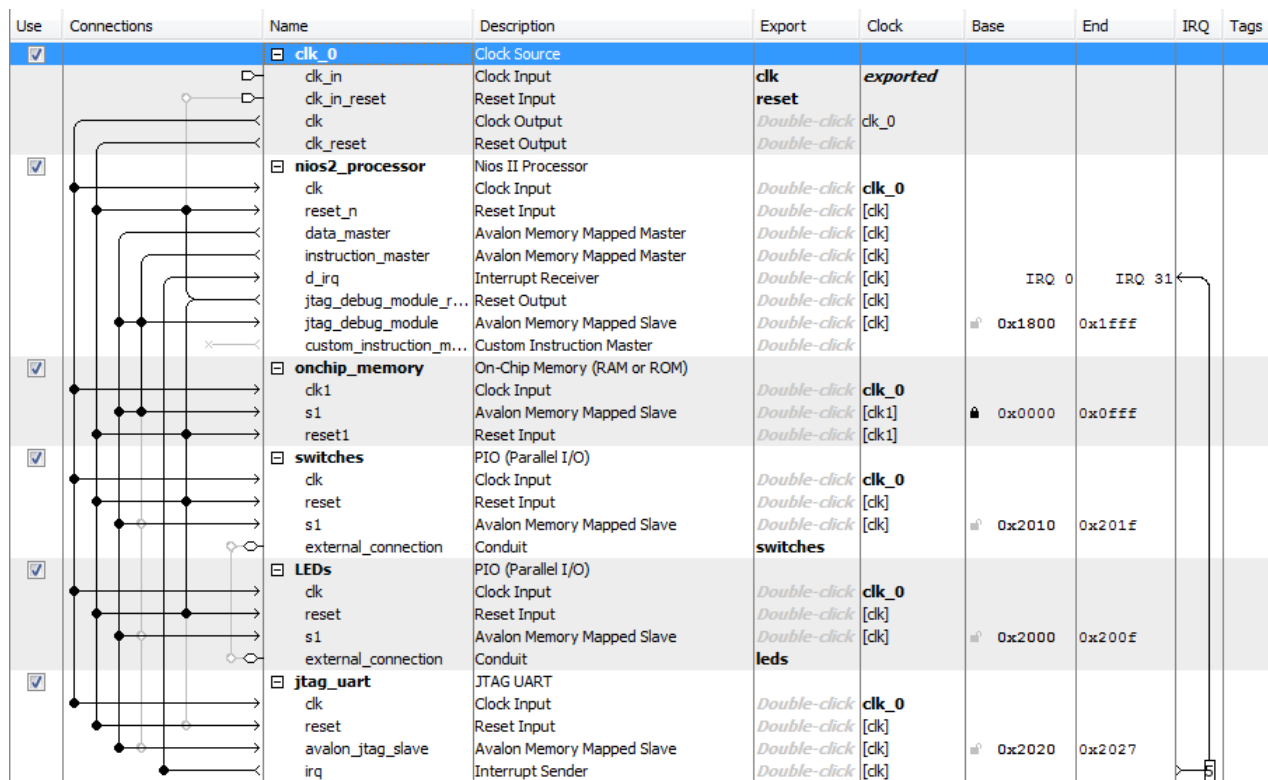

Figure 18. The complete system.
14. So far, we have specified all connections inside our *nios\_system* circuit. It is also necessary to specify connections to external components, which are switches and LEDs in our case. To accomplish this, double click on Double-click to export (in the Export column of the System Contents tab) for *external\_connection* of the switches PIO, and type the name *switches*. Similarly, establish the external connection for the lights, called *leds*. This completes the specification of our *nios\_system*, which is depicted in Figure 18.